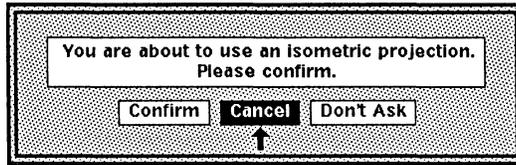

Figure 24-32. Conversion Projection stickup
- ✓ When the Projection stickup menu appears (Figure 24-32), select **Confirm** or **Don't Ask**.